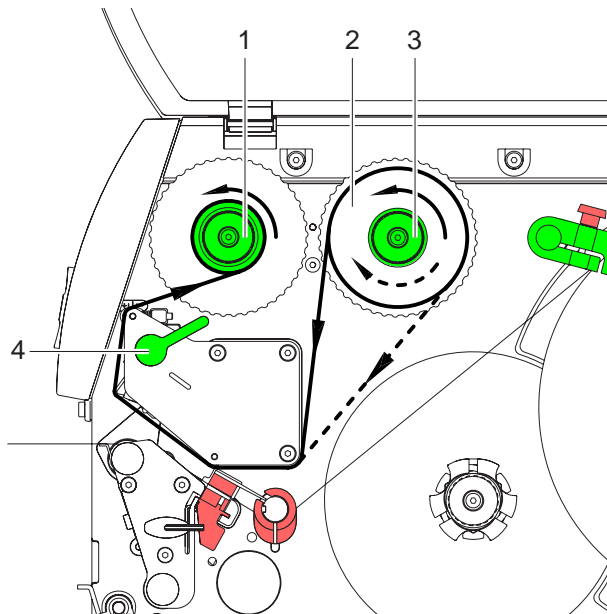

Fig. 10: Feed path of the transfer ribbon
2. Turn lever (4) counterclockwise to lift the printhead.
3. Slide transfer ribbon roll (2) onto the ribbon supply hub (3) until it stops and so that the color coating of the ribbon faces downward when being unwound. No rotation direction is specified for the ribbon supply hub (3).
4. Hold transfer ribbon roll (2) firmly and turn knob on ribbon supply hub (3) counterclockwise until the transfer ribbon roll is secured.
5. Slide suitable transfer ribbon core onto the transfer ribbon take-up hub (1) and secure it in the same way.
6. Guide transfer ribbon through the print unit as shown in Fig. 10.
7. Secure starting end of transfer ribbon to the transfer ribbon core (1) with adhesive tape. Ensure counterclockwise rotation direction of the transfer ribbon take-up hub here.
8. Turn transfer ribbon take-up hub (1) counterclockwise to smooth out the feed path of the transfer ribbon.
9. Turn lever (4) clockwise to lock the printhead.
1. Turn lever (4, Fig. 10) counterclockwise to lift the printhead.